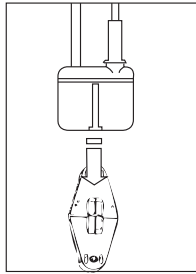
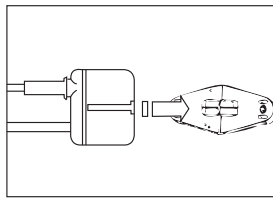

Fig. 4 – Pump Assembly Vertical
Fig. 5 – Pump Assembly Horizontal
7. Screw the bracket to the wall and attach the pump to the bracket as shown in Fig. 4 and Fig. 5.